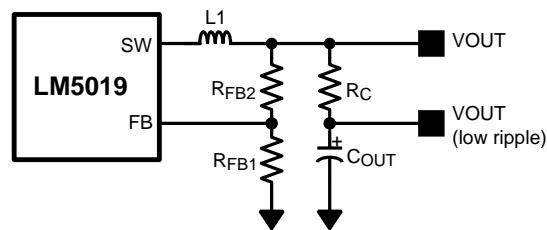

Figure 10. Low Ripple Output Configuration
This regulator regulates the output voltage based on ripple voltage at the feedback input, requiring a minimum amount of ESR for the output capacitor (C_{OUT}). A minimum of 25 mV of ripple voltage at the feedback pin (FB) is required for the LM5019. In cases where the capacitor ESR is too small, additional series resistance may be required (R_C in Figure 10).
For applications where lower output voltage ripple is required the output can be taken directly from a low ESR output capacitor, as shown in Figure 10. However, R_C slightly degrades the load regulation.